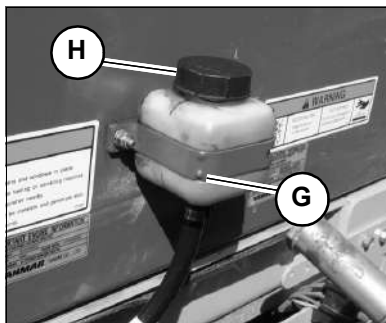

Figure 99 – Brake Fluid Reservoir (AL 500 Series without Air Conditioning Shown)
3. The brake fluid reservoir (G, Fig. 99) is located against the platform at the front of the engine compartment.